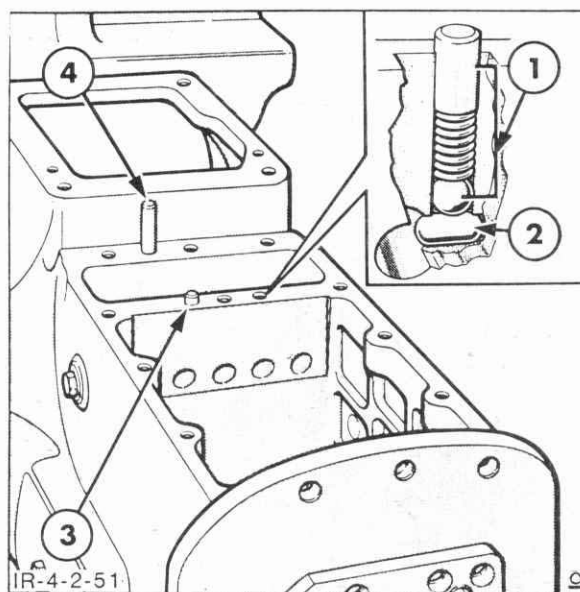

Figure 4-144
3. Remove the detents, springs and balls from the bores in the top of the transmission case, Figure 4-144. If the balls will not lift out with a magnet, the balls may be removed after the shift rails have been removed from the transmission case.
10. If necessary, remove the interlock detent plug from the left-hand side of the transmission case and extract the interlock detent, Figure 4-144, which is positioned between the 1st/2nd and 3rd/4th gearshift rails.